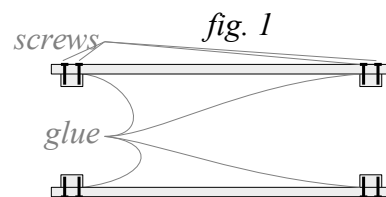

fig. 1
- 3) Glue and screw the front and back into the notches on the legs, be sure to leave 1 1/2" of extra past each leg so the sides create flush joints – fig. 1. [Tip: lay the legs on a flat surface with the notch up, it helps square the legs with the front/back.]